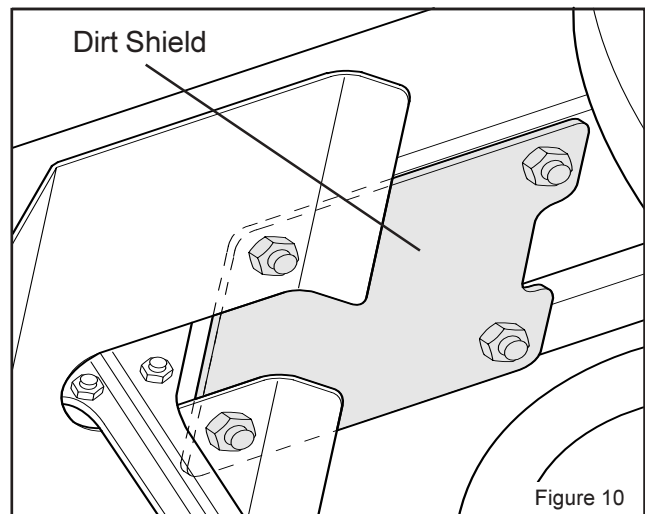

Figure 10
4. Remove dirt shield from bottom of tiller. (Fig. 10)